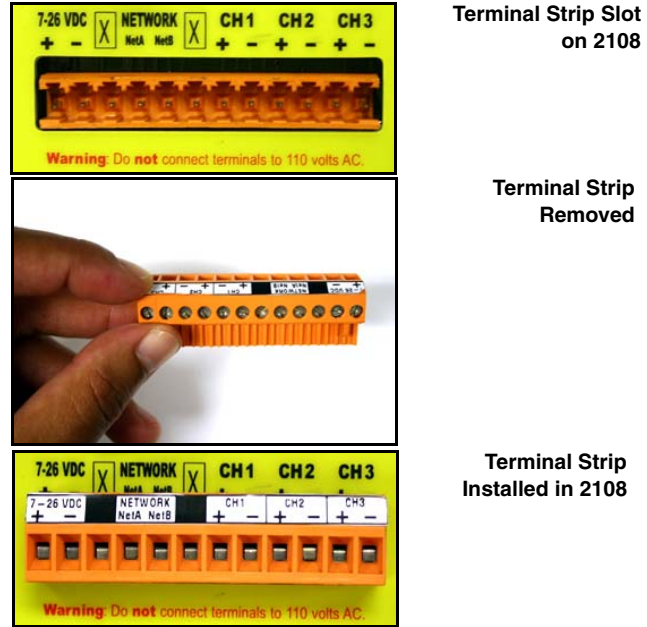

Figure 2-5 Terminal strip on the front of the 2108
The terminal strip is located on the front of the 2108 (Figure 2-5). There are twelve terminals, two of which are blank (marked “X”). Terminals 1 and 2 are for power; 4 and 5 are for network connections; 7-12 are for connecting up to three analog outputs to a control system. The terminal’s screw clamp connections accept wire sizes ranging from 12 to 24 AWG.
7. Your connections should look like those in Figure 2-5.